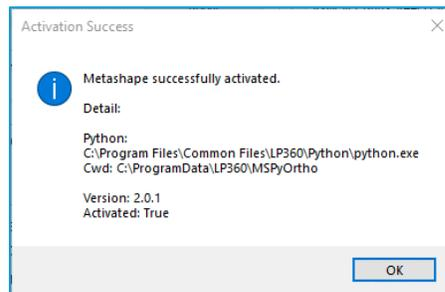

Figure 14 – Agisoft Ortho Mapping Activation Success
9. You should see an Activation Success message (Figure 14) indicating, "Metashape successfully activated". Select *OK*.